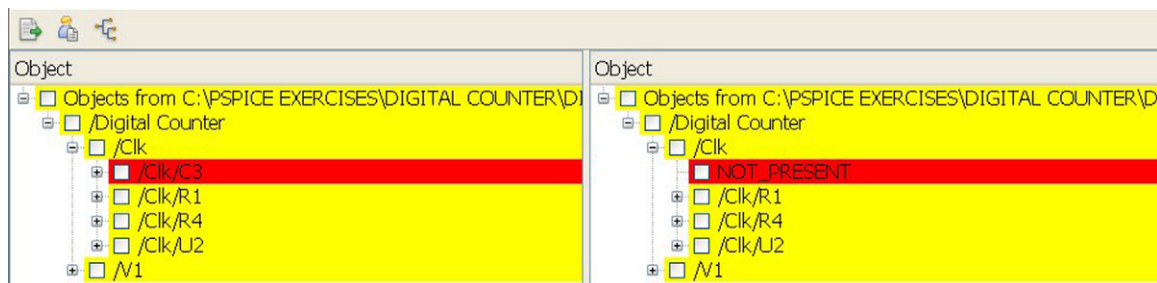

FIGURE 22.25
2. In the SVS window, the test bench is on the left-hand side panel and the master design on the right-hand side panel. In the left panel, expand the **/Clk** as shown in Figure 22.25.